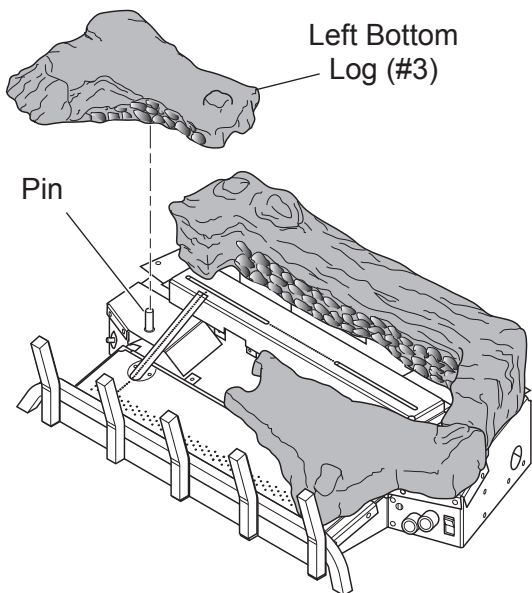

Figure 32 - Installing Left Bottom Log (#3)
3. Install left bottom log (#3) on pin located on right side of base. *See Figure 32.*